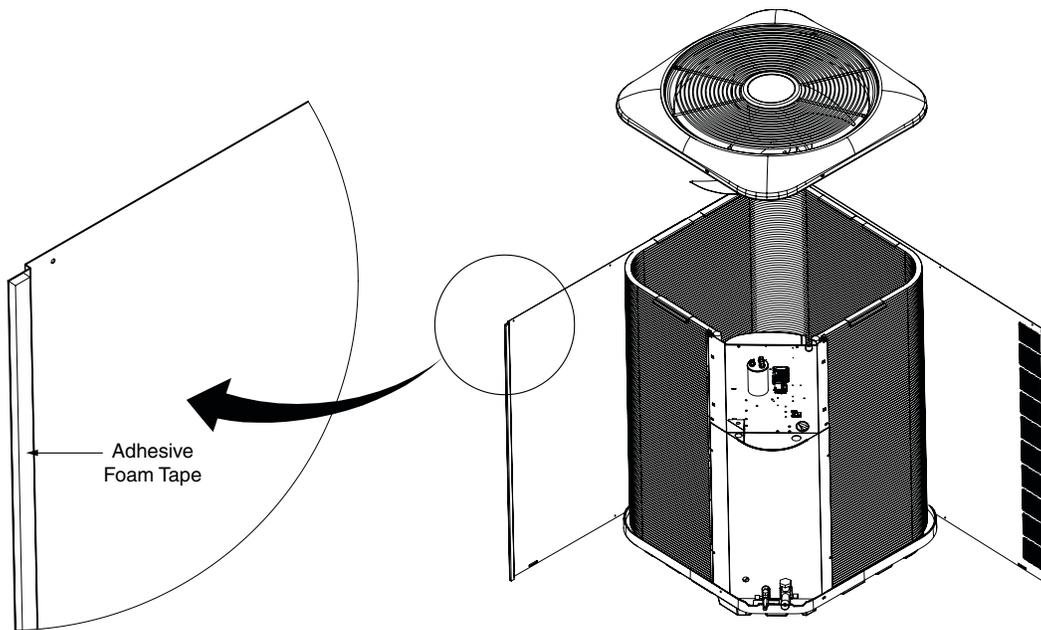
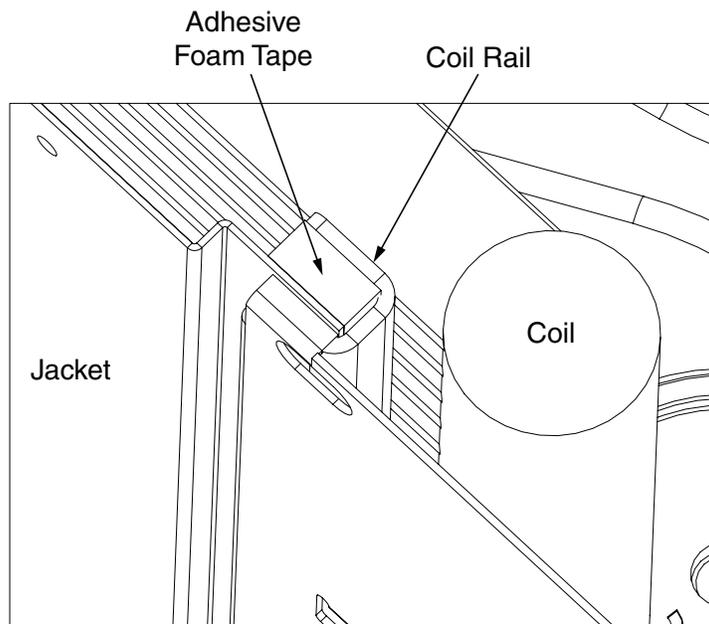

Figure 1. Adhesive Foam Tape Exploded View
Figure 2. Adhesive Foam Tape Detailed View
3. Cut the adhesive foam tape to the length corresponding to the length of the vertical edge of the jacket. See Figure 1 and Figure 2.